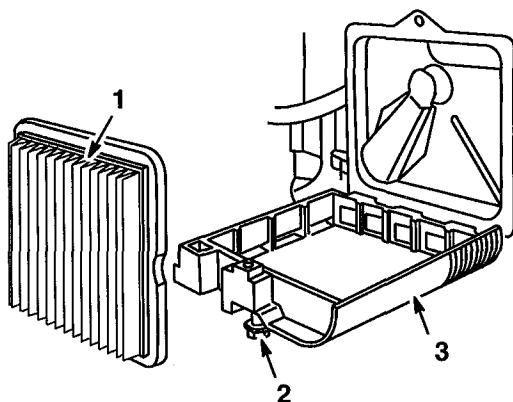

Figure 16
2. Loosen screw securing air cleaner cover to engine. Tilt cover down and clean thoroughly (Fig. 16).